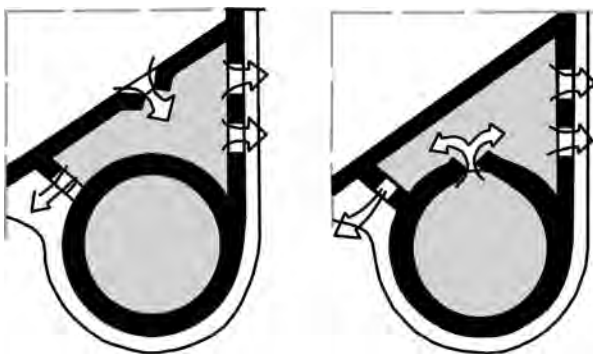

FIGURE 13.12 Ring and field gaskets to prevent intermixing of the fluids.
- To prevent intermixing of the fluids in the corner areas (Figure 13.12) where field and ring gaskets are very close to each other, the link pieces have a number of slots which opens the area between the field and ring gaskets to atmosphere.